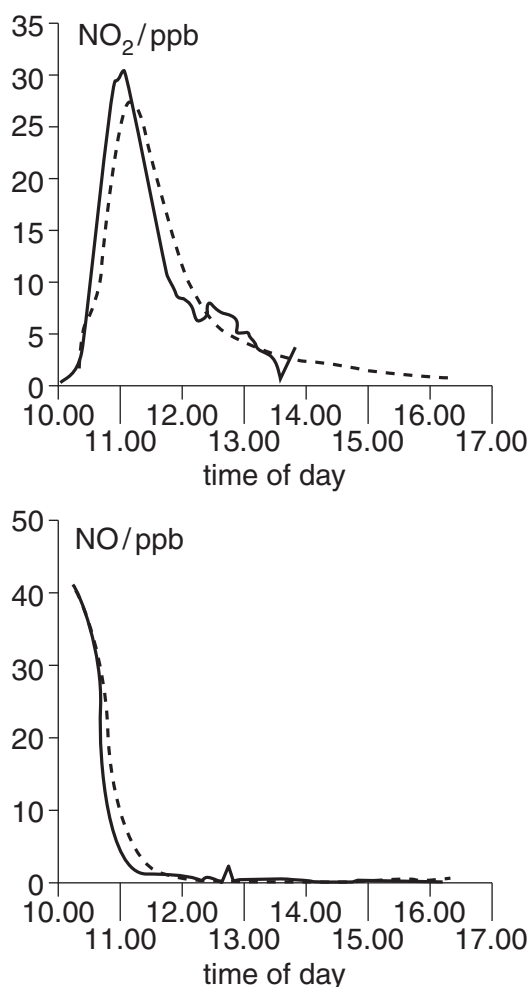

Fig. 1 Observed (black lines) and simulated (dotted lines) concentrations of NO₂ and NO during EUPHORE experiments
- (e) One of the graphs in **Fig. 1** shows the variation of NO₂ concentration during the day. Describe this variation and explain it using the other graph in **Fig. 1** and the diagram in **Scheme 1**.
Fig. 1, below, shows observed concentrations of NO₂ and NO (black lines) during an experiment to investigate benzene removal. This was obtained as part of the EXACT (Effects of the OXidation of Aromatic Compounds in the Troposphere) research project involving a consortium of scientists from European universities. The concentration of benzene falls because of its reaction with •OH, and the resulting increase in ozone levels through the reactions shown in **Scheme 1**. Also shown in the figure are the predictions (dotted lines) of an atmospheric model, the Master Chemical Mechanism, which agree well with the observations, giving us confidence in the reaction mechanisms.